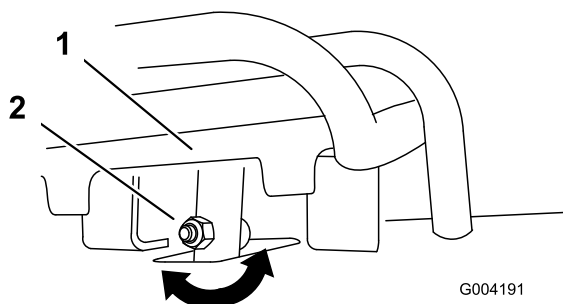
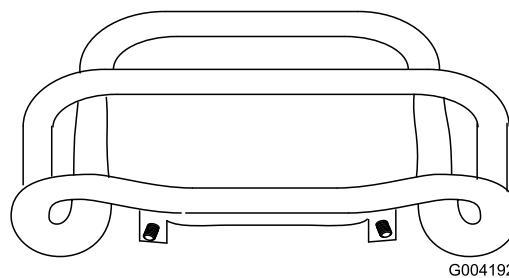

Figure 44
Figure 45
4. If the front of the traction control does not rest square and flush with the reference bar, loosen the flange nut and bolt in the stem of the traction control (Figure 44).
5. Adjust the traction control so that it rests flush against the reference bar when it is pulled straight back (Figure 44 and Figure 45).